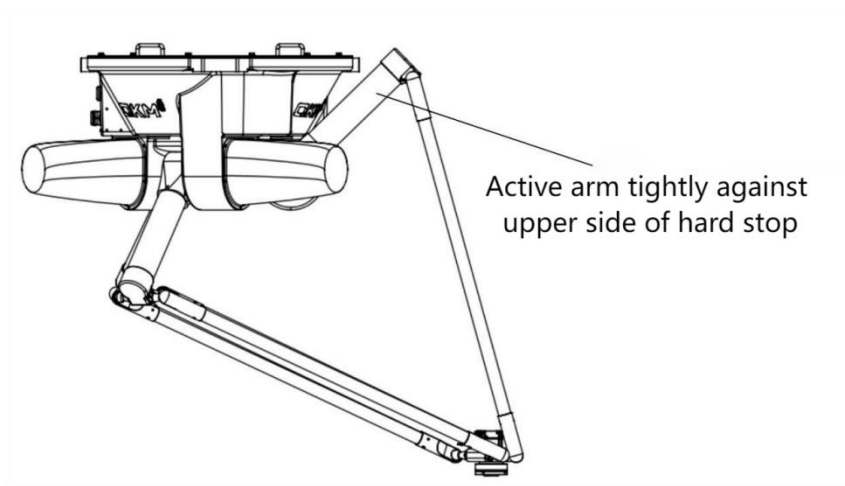

Figure 3-30 Calibration posture
Step 1: Ensure that the robot is in the lower servo state. Press the Brake key on the interface panel and push the active arm to the negative direction of the current axis until the active arm is close to the upper side of the hard limit, as shown in Figure 3-30 for the calibration posture of the current axis.